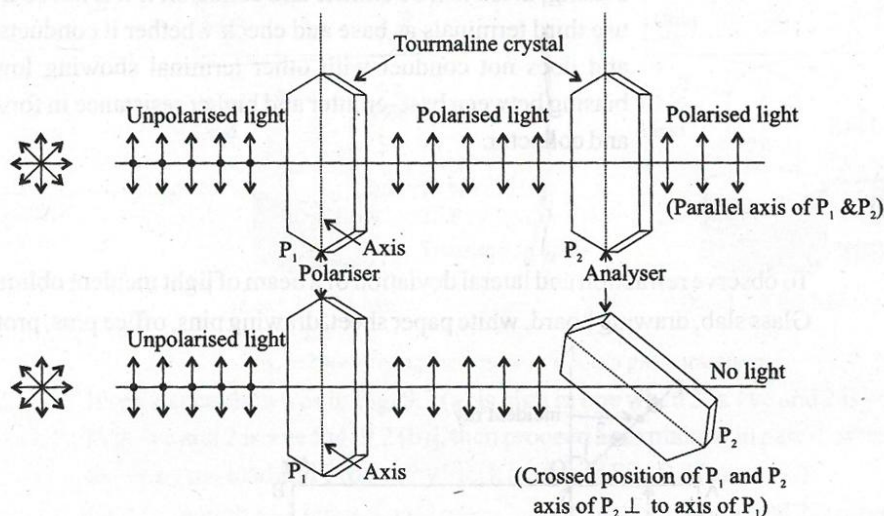

Fig. 11.1 : (a) If polaroid P_2 is placed parallel to P_1 , then the plane polarised light passes through P_2 also.
- In one position [Fig. 11.1 (a)] when the axis of two polaroids P_1 and P_2 are parallel to each other, the bulb is seen maximum bright.
- In another position [Fig. 11.1 (b)] when the axis of polaroid P_2 is perpendicular to axis of polaroid P_1 , no light is seen.